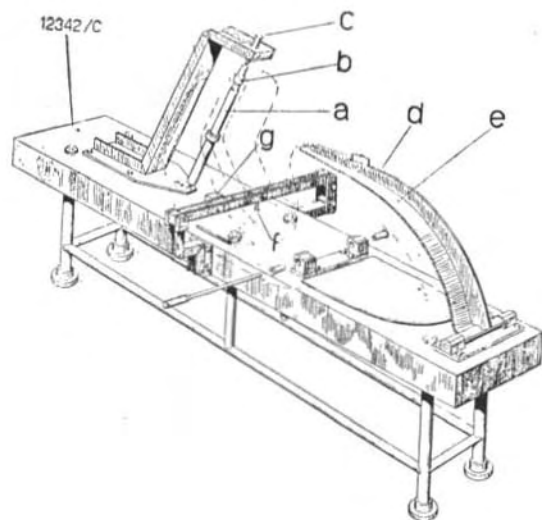
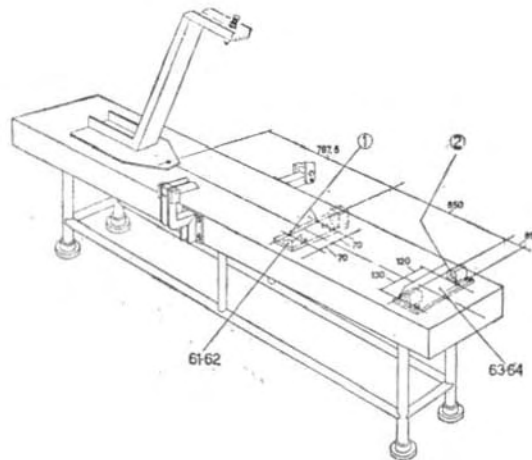

Fig. 115 - Template for frame inspection.
Fig. 116 - Preparing template for frame inspection.
The template 12342/C can be used for alignment check of **Vespa G. S.** frame, provided that new parts 12343/C-61-62 e 63-64 (as shown in Fig. 116) are mounted in place of the corresponding parts (see Fig. 115) prescribed for other Vespa models.
- Locate part 12342/C/61-62 instead of corresponding central support (see Fig. 115) with the four screws, finger tight.
- Place part 12342/C/63-64 instead of the rear support (see Fig. 115) where arm « d » pivots, so that said arm can swing according to references indicated below. Then tighten the screws securing parts 12342/C/61-62 and 63-64 to the template.
- Take off the frame from the template and drill the template table following the holes existing in the supports (holes 1 and 2, see Fig. 116). Fit the dowel pins for exact location of the two supports. Measures for suggested location of such holes are indicated in Fig. 116.
Fit parts « a » and « b » on the frame, clamp the latter in the template as shown in Fig. 115 and see that following conditions are reached: